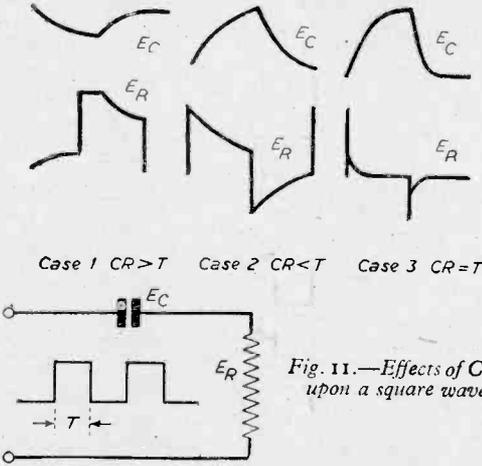

Fig. 11.—Effects of C.R. upon a square wave.
depends upon the time constant C.R., in relation to the period (T) occupied by one cycle of the input voltage. The diagrams in Fig. 11 show the effect of C.R. upon the resultant voltages. It can be seen from these diagrams that if $C.R. > T$ the output across R consists of alternatively positive and negative pulses which are narrow at the peak, broadening at the base. The pulses may be sharpened by an amplifier stage biased so that only the positive peaks are amplified. (See Fig. 12).